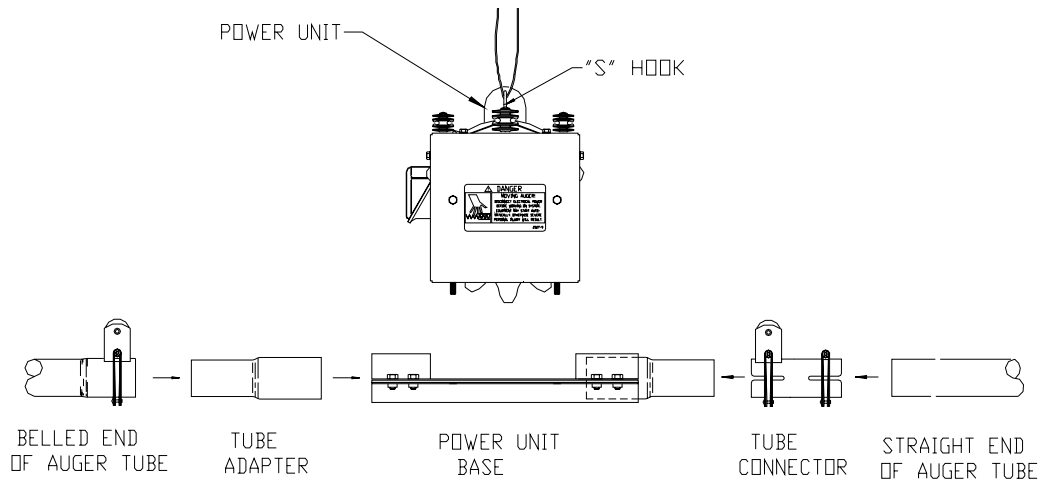

Figure 29. Power Unit Installation (View Standing outside the loop)
- Remove the Power Unit from the Base Connector Weldment and install the Base Connector Weldment, as shown in **Figure 29**.
- Tighten the Four Bolts to secure the Tube Adapter to the Power Unit Base, see **figure 29**.
- Insert the belled end of the next tube section over the Tube Adapter, as shown in **Figure 29**. Secure using a Clamp/Anti-Roost Bracket.